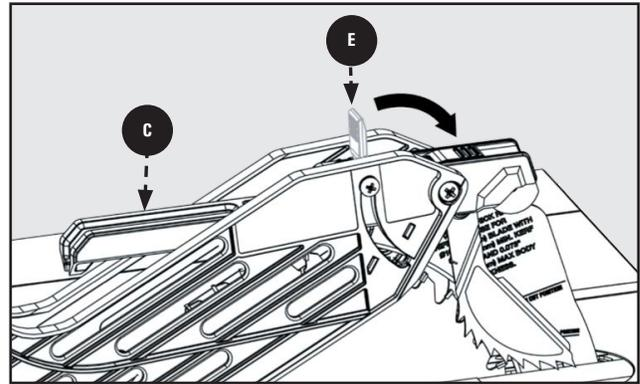

Figure 23
3. See Figure 23 (next page). While holding down on the front of the Support Arms **C** press the Lock Tab **E** down until it snaps into the locked position. Check to make sure the Guard is locked onto the Riving Knife by pulling on the guard. If the Guard is not locked, the Lock Tab will flip up to the unlocked position.
See Figure 23.